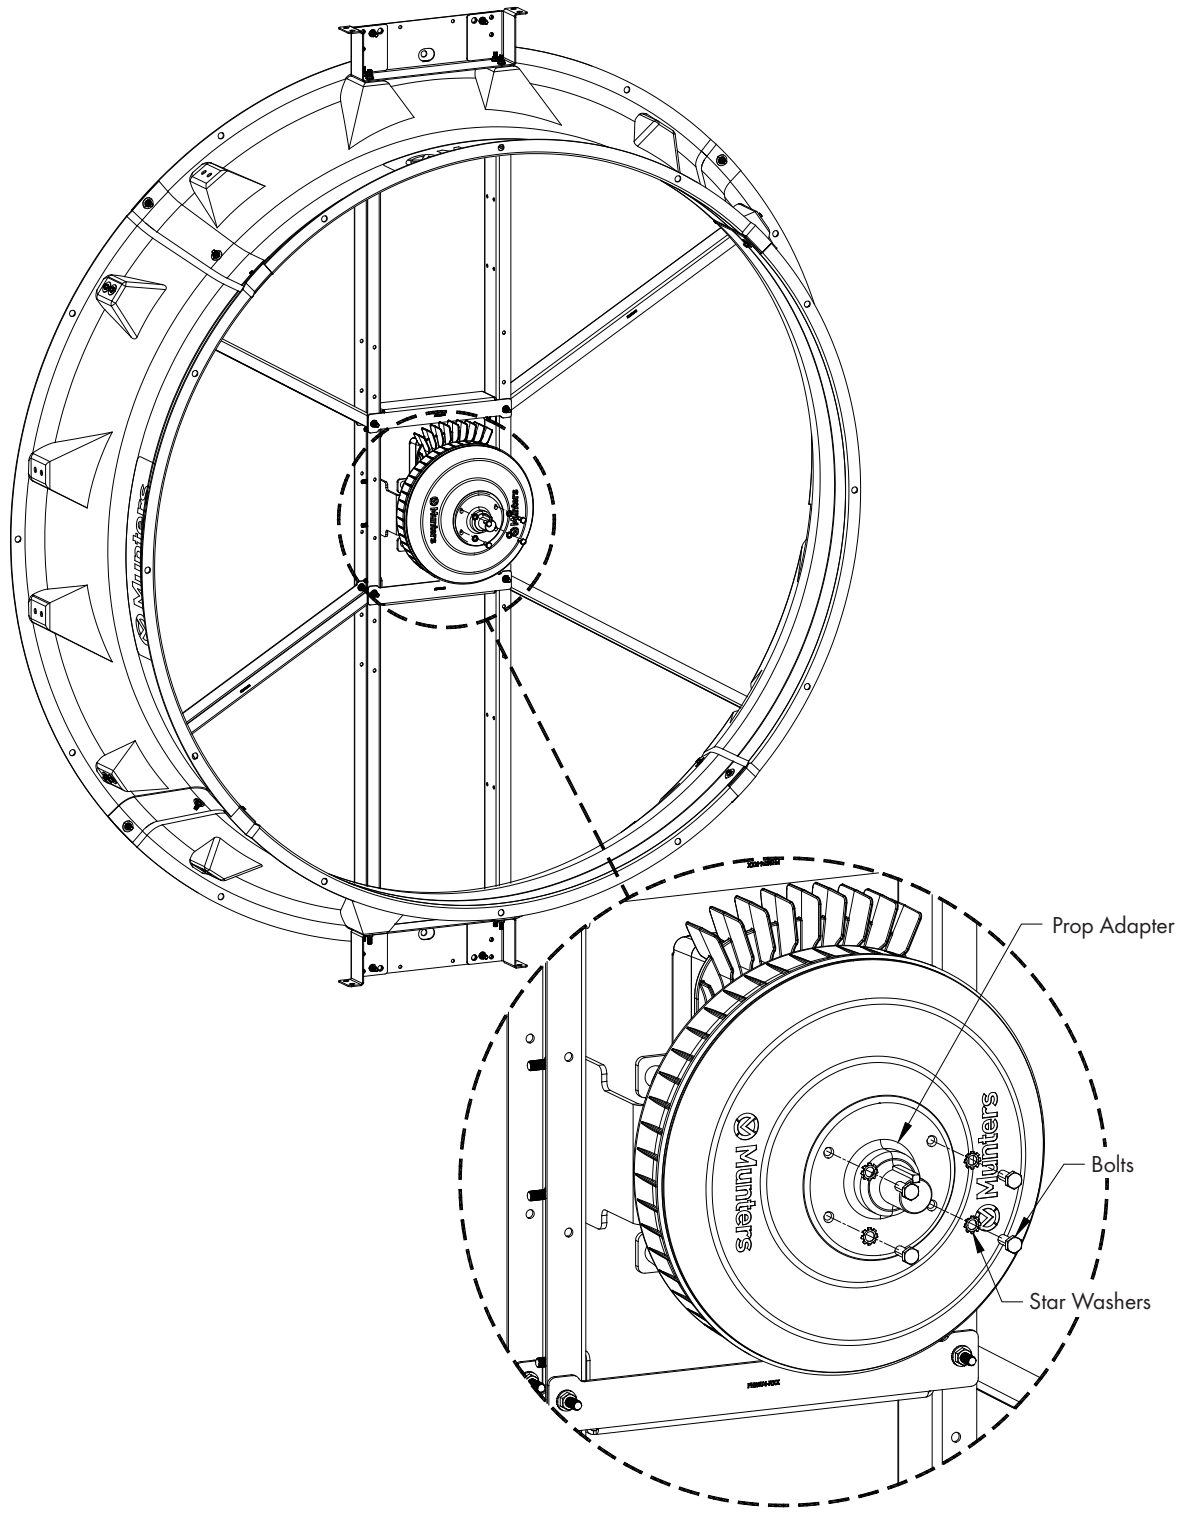

Figure 18
Remove the (4) Bolts and Star Washers holding the Prop Adapter to the Motor. Save the Prop Adapter for reuse later, but discard the existing bolts and washers. See Figure 18.